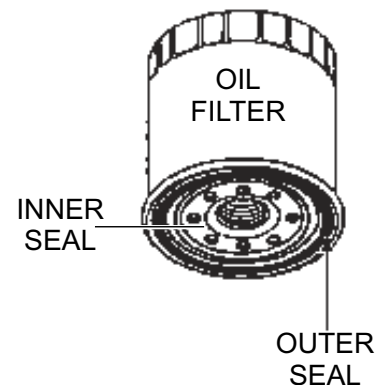

Figure 47. Oil Filter
7. Coat the seal of the new oil filter (Figure 47) with clean engine oil. Install new filter first by hand until it contacts the engine sealing surface. Tighten it another 3/4 turn using the filter wrench.